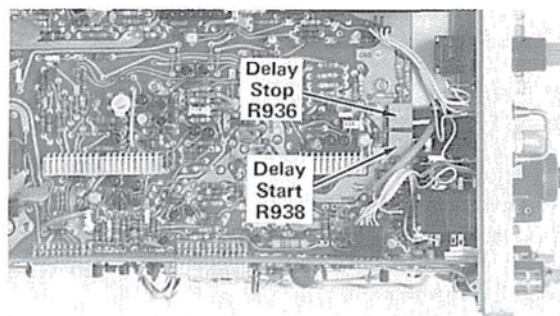

Fig. 5-23. Location of Delay Start and Delay Stop adjustments.
c. ADJUST—Delay Start adjustment, R938 (see Fig. 5-23), so the left side of the intensified zone starts on the leading edge of the second time marker.